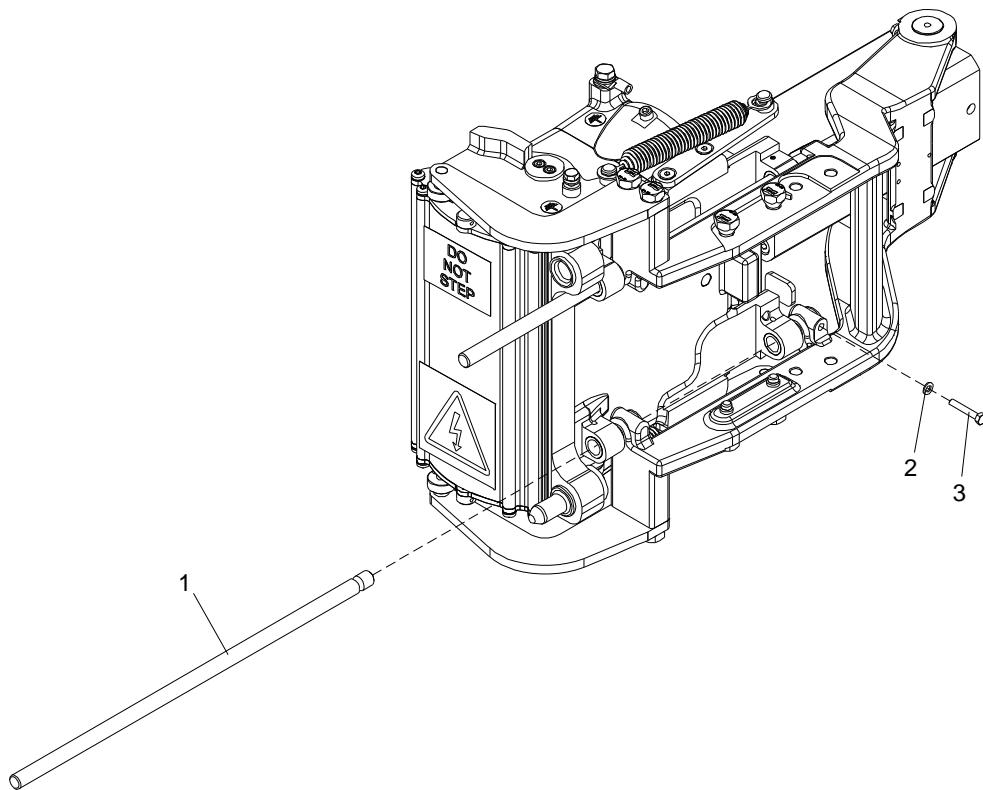

Figure 7-26: Replacement of Guide Pin
1. Remove the screw (3) and washer (2). See Figure 7-26.
2. Pull out the guide pin (1).
2. Push the guide pin (1) in position and mount the washer (2) and screw (3). See Figure 7-26.